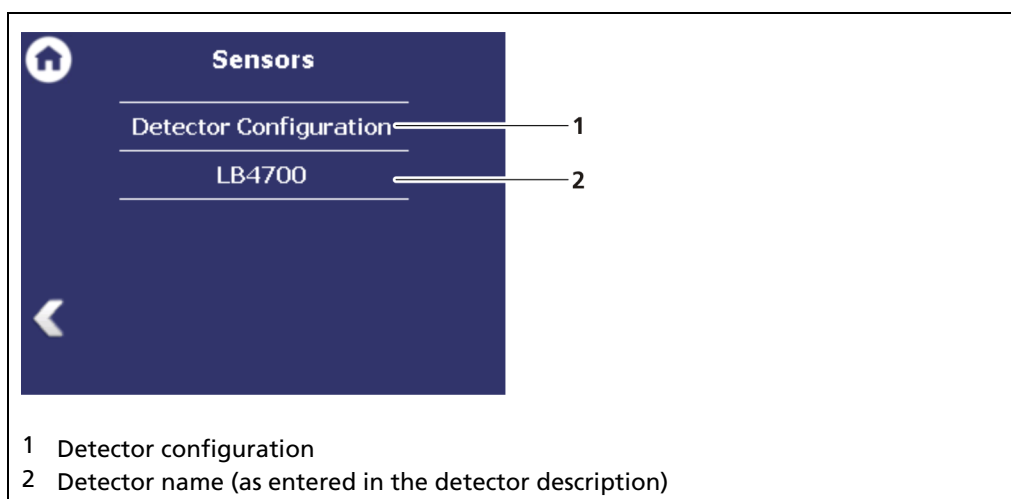
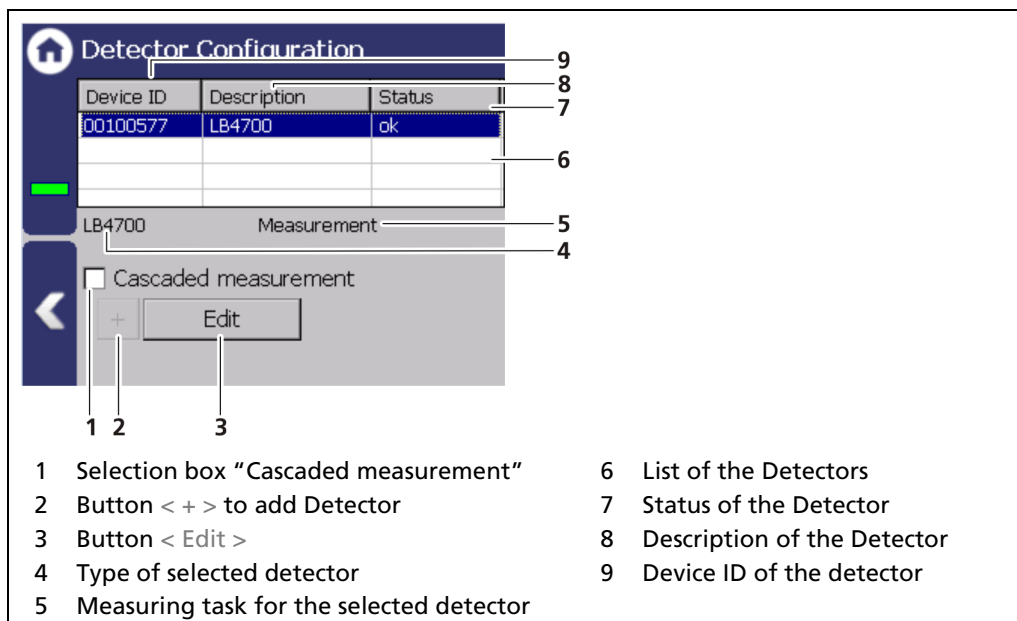

Fig. 52 Menu "Sensors"
Fig. 53 Detector configuration
- Detector configuration (Fig. 52, item 1)
- Configuration of the respective detector (Fig. 52, item 2)
In the sub-menu "Detector configuration" the detectors for the measuring system are added and configured. Only configured detectors are listed and shown in the menu (Fig. 52). When a detector is selected (Fig. 53, item 6), the detector type (Fig. 53, item 4) and measuring task (Fig. 53, item 5) are shown.
Clicking the box < Edit > (Fig. 53, item 3) selects the type of detector and changes the description. The boxes < + > and < - > can be used to add and remove detectors for cascading measurement.
In systems with a single detector the device ID is determined automatically and listed. The description can be edited by clicking on <Edit> (Fig. 53, item 3).
The settings of a configured detector are edited by selecting and clicking on **< Edit >** (Fig. 53, item 3).
Detector description. Also used for error messages, logs and in the menu structure (Fig. 52).